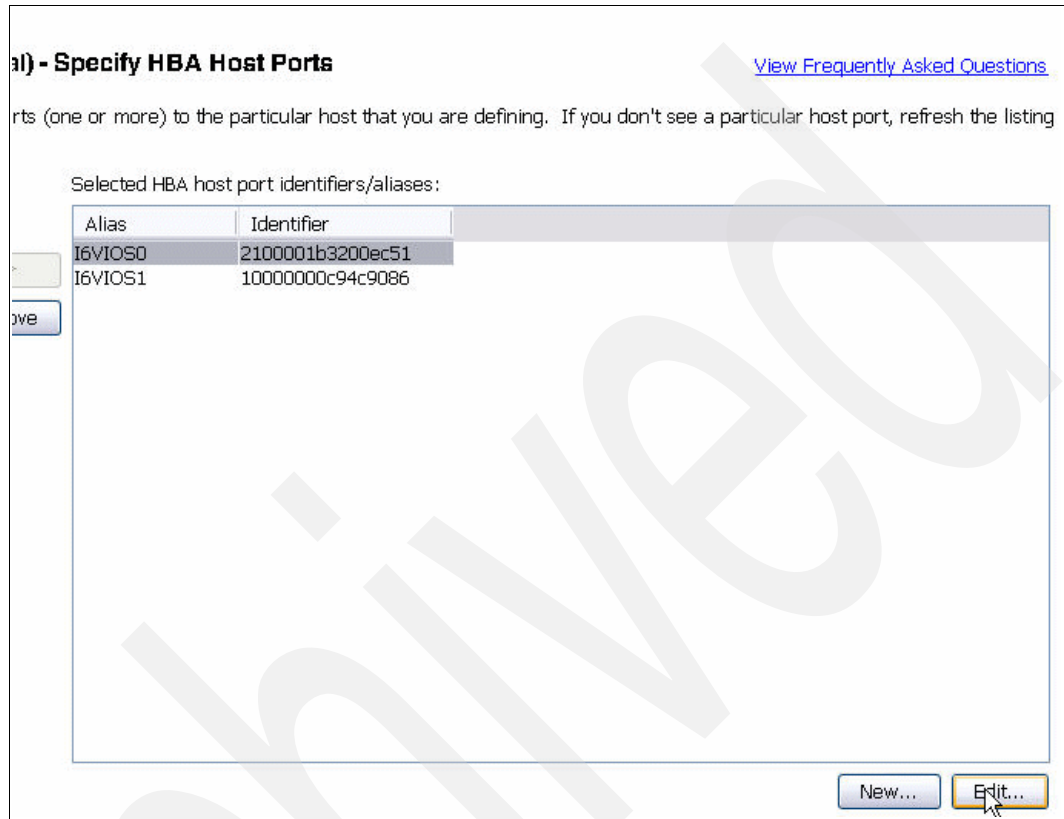

Figure 7-39 WWPN aliases
- As shown in Figure 7-39, DS Storage Manager Client automatically assign alias names for the added WWPNs. We change the names so that they contain a suffix describing the physical adapter location. For information about how to obtain the location of the adapter refer to “Creating hosts” on page 265.